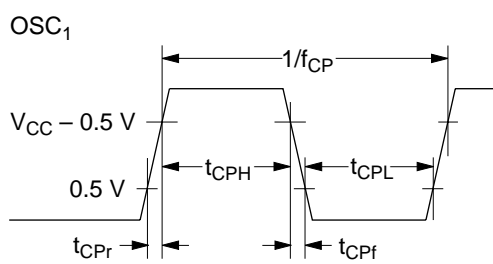

Figure 84 External Clock Timing
3. Refer to figure 84.
5. Refer to figure 84.